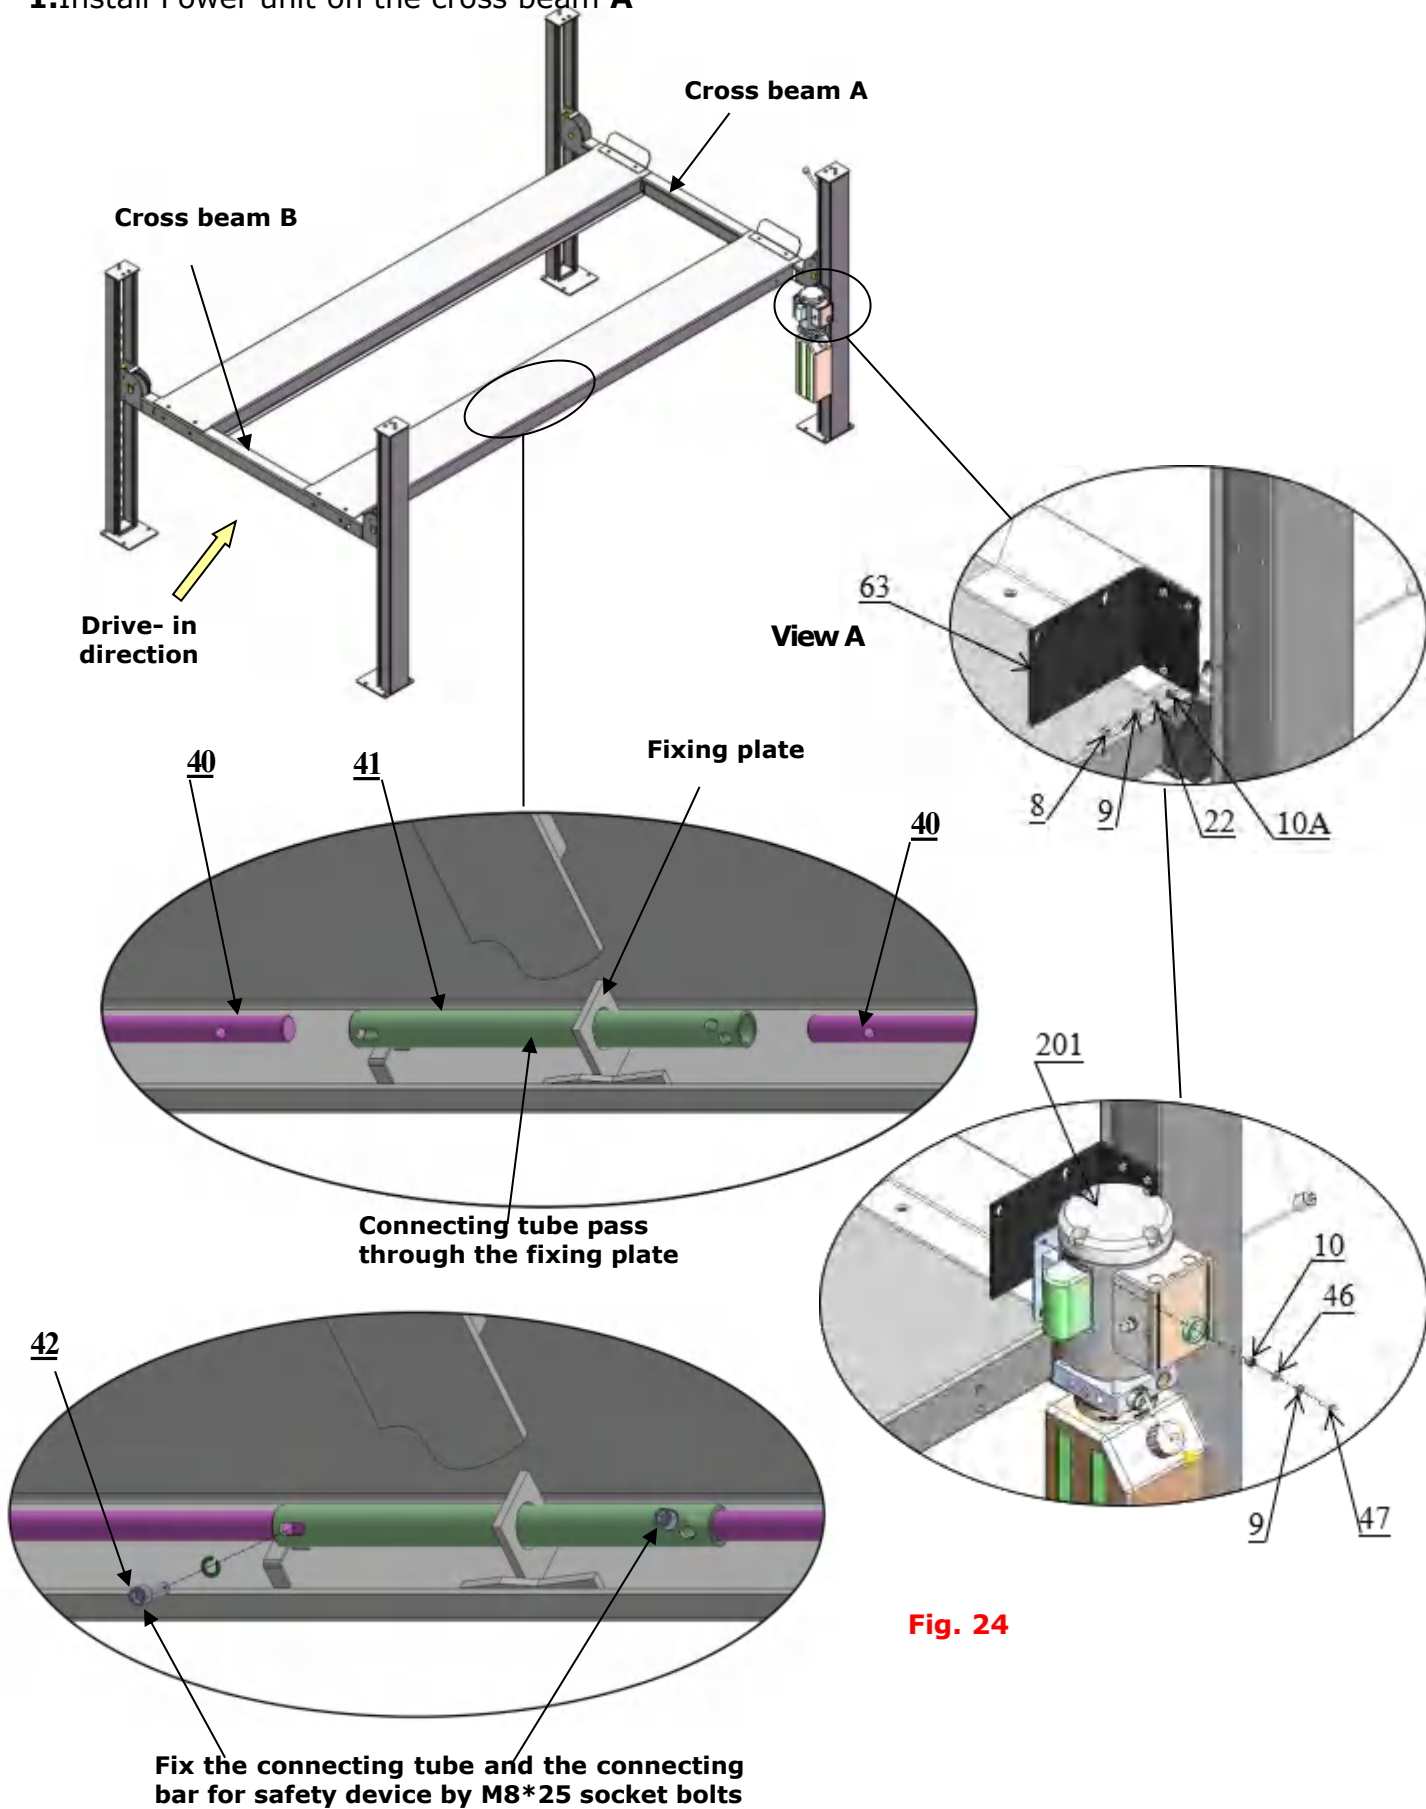

Fig. 24
J. Install power unit and connecting tube (See Fig. 24).